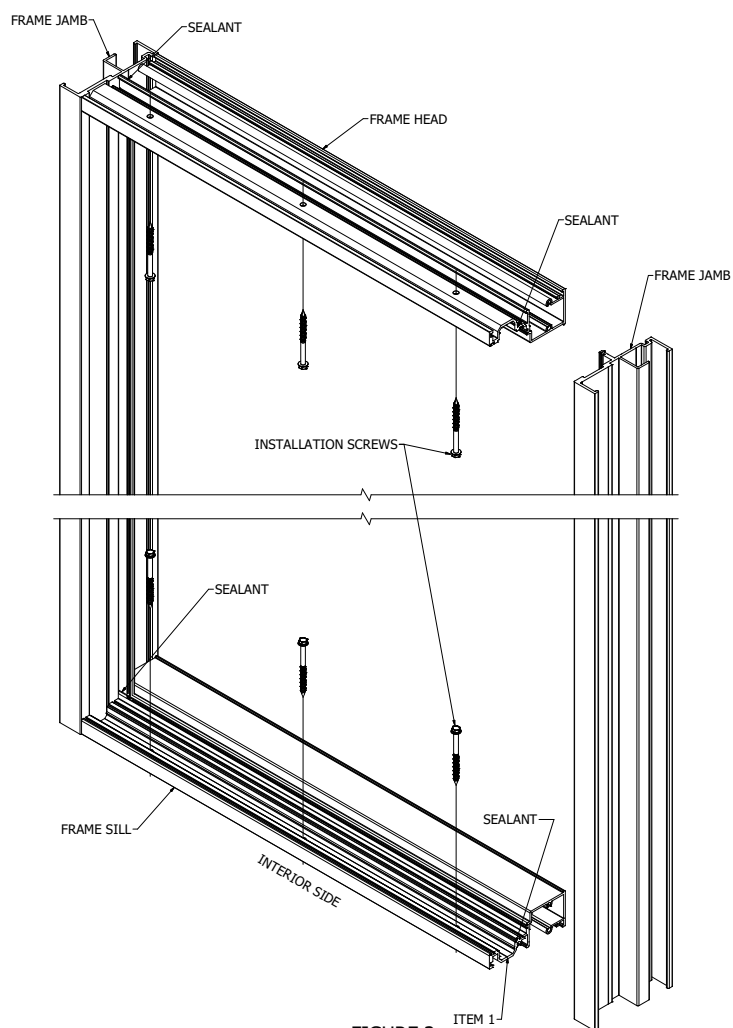

FIGURE 3
- 8. Seal Door Sill** – seal all anchors at sill of door and gap at both ends between the sill channel (where installation screws sit) and frame jambs (see item 1 on figure 3)